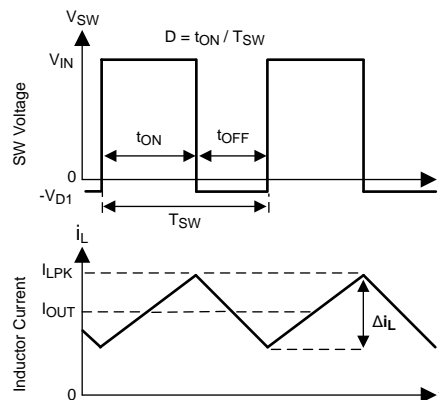

Figure 35. SW Node and Inductor Current Waveforms in Continuous Conduction Mode (CCM)
The following operating description of the LM43603 refer to the Functional Block Diagram and to the waveforms in Figure 35. The LM43603 is a step-down Buck regulator with both high-side (HS) switch and low-side (LS) switch (synchronous rectifier) integrated. The LM43603 supplies a regulated output voltage by turning on the HS and LS NMOS switches with controlled ON time. During the HS switch ON time, the SW pin voltage V_{SW} swings up to approximately V_{IN} , and the inductor current i_L increases with a linear slope $(V_{IN} - V_{OUT}) / L$. When the HS switch is turned off by the control logic, the LS switch is turned on after a anti-shoot-through dead time. Inductor current discharges through the LS switch with a slope of $-V_{OUT} / L$. The control parameter of Buck converters are defined as Duty Cycle $D = t_{ON} / T_{SW}$, where t_{ON} is the HS switch ON time and T_{SW} is the switching period. The regulator control loop maintains a constant output voltage by adjusting the duty cycle D . In an ideal Buck converter, where losses are ignored, D is proportional to the output voltage and inversely proportional to the input voltage: $D = V_{OUT} / V_{IN}$.